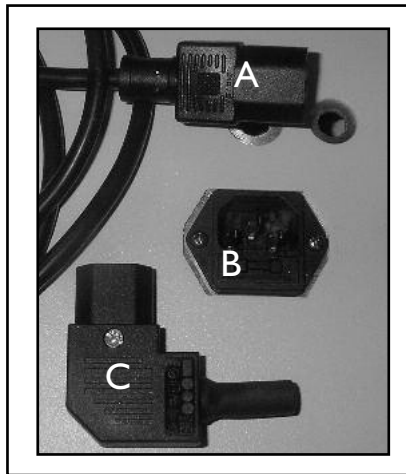

Figure 1a: Back View - 110VAC Power Connections
The NPVD can be powered with the included Power Cord (A) by plugging directly into the power receiver (B) located on the back of the monitor see **Figure 1a**.
To use your own power leads, a Right Angle Power Connector (C) may be used (Not Included) see **Figure 1a**.
1. After a qualified electrician wires the right angle connector (C), plug the connector into the power receiver (B) located on the back of the NPVD.